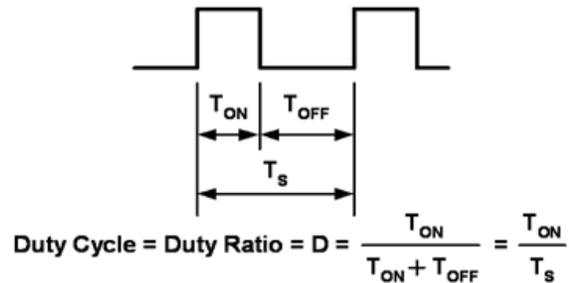

Figure 12.
LEDs on and off for a portion of a single cycle. This on/off cycle is called the Duty cycle (D) and is expressed by the amount of time the LEDs are on (Ton) divided by the total time of an on/off cycle (Ts) (Figure 12).